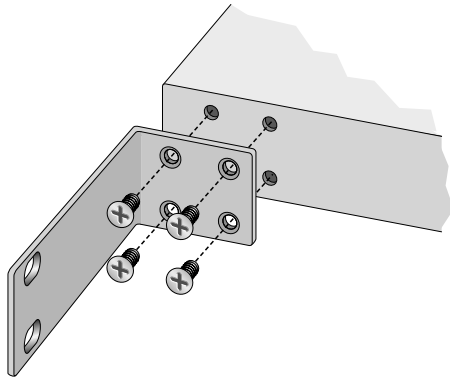

Figure 8 Attaching the Brackets
2. Attach the brackets to the side of the hub with the screws provided. See Figure 8.